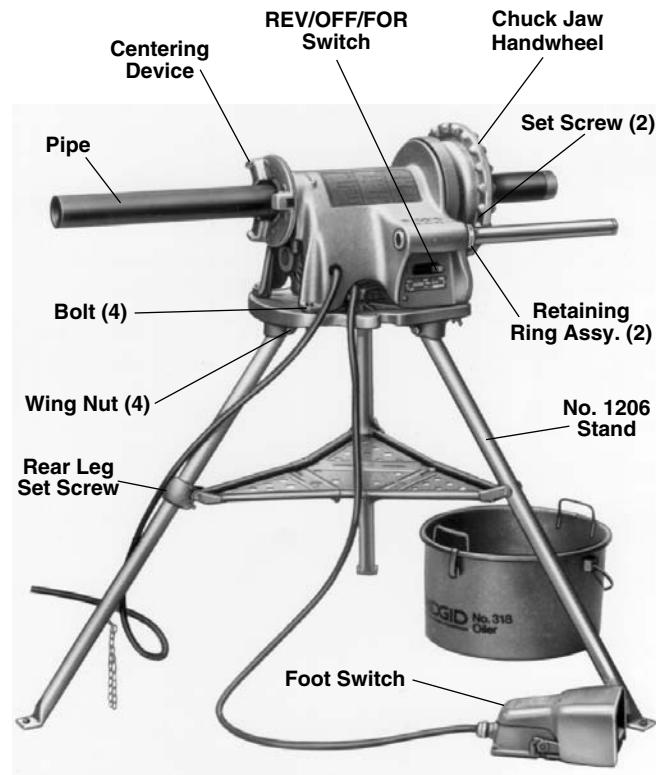

Figure 3 – 300 Power Drive Mounted on No. 1206 Stand with 418 Oiler
- Locate the set screw on the tray leg support on the rear leg (Figure 3).
2. Mount power drive on the stand using bolts and wing nuts (Figure 3).
1. Make sure Power Drive is unplugged and the directional switch is set to the OFF position (*Figure 3*).
4. Make sure the foot switch is present and attached to the Power Drive (*Figure 3*).
4. If the workpiece extends more than four (4) feet beyond the Power Drive, use one or more pipe stands to prevent tipping and the oscillation of the pipe.
5. If the workpiece extends beyond the Power Drive, set-up guards or barricades to create a minimum of three (3) feet of clearance around the Power Drive and workpiece. This "safety zone" prevents others from accidentally contacting the machine or workpiece and either causing the equipment to tip or becoming entangled in the rotating parts.
6. If necessary, fill the 418 Oiler with RIDGID Thread Cutting Oil. Position the oiler under the front of the Power Drive (*Figure 3*).